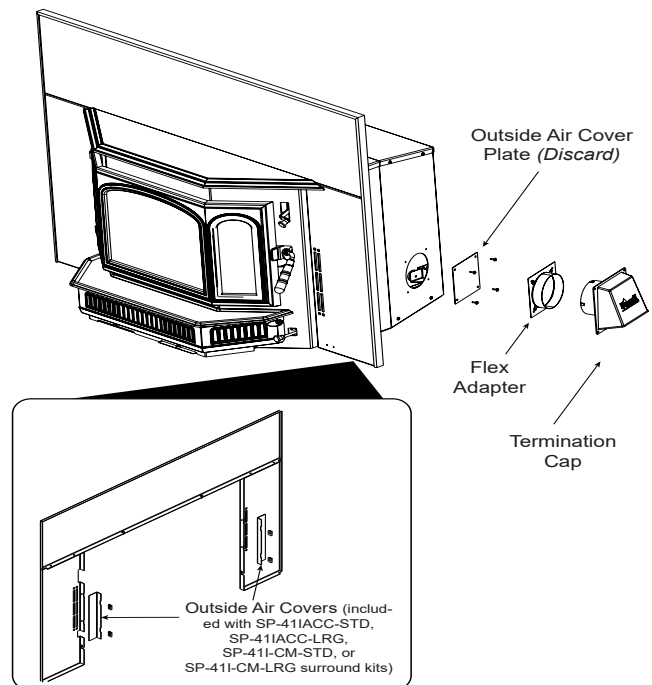

Figure 18.1
1. Remove the **outside air cover plate** from the outer can of the appliance and discard (**Figures 18.1**).
8. See instructions that come with your blower kit to attach rectangular outside air cover (**Figure 18.1**).